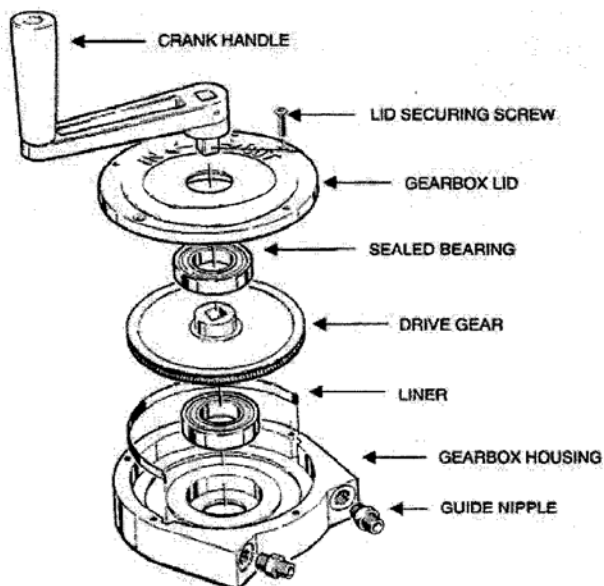

Figure 5
- Oserix Winding Mechanism (Fig 5)